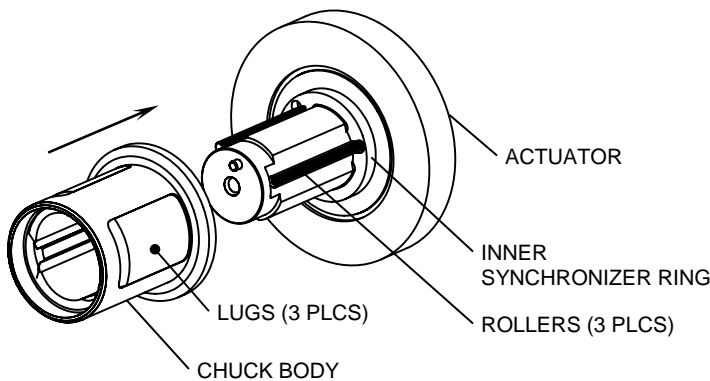

Fig. 2
3. Holding the rollers in place, slide the chuck body, with lugs installed, onto the actuator shaft. (Fig 2)